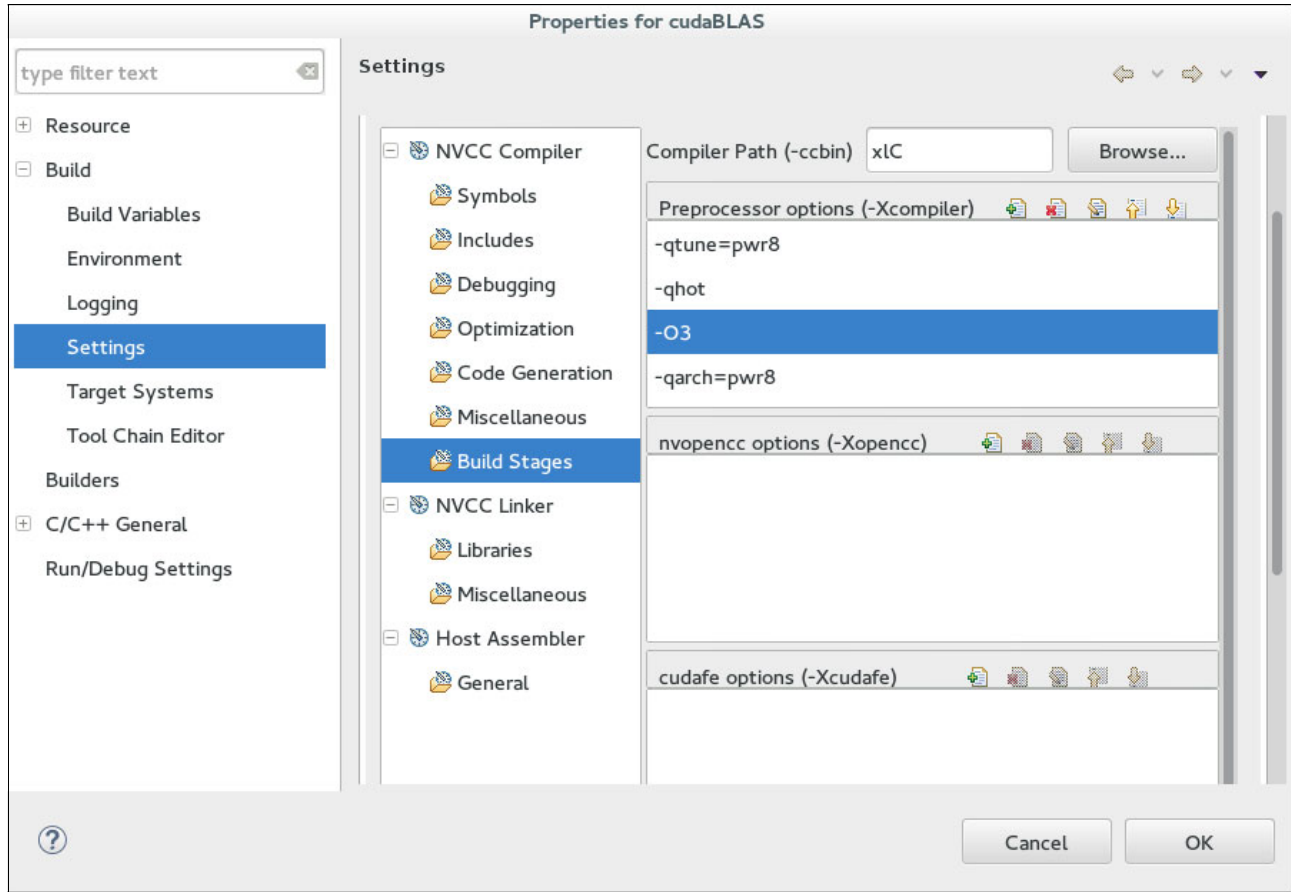

Figure 6-17 Nsight - new CUDA C/C++ project build settings
4. As an optional step, i set the host compiler that is evoked by **nvcc**. Right-click the project name and select **Properties**. Expand **Build**, and then choose **Settings**. Click the Tool Settings tab, then select **Build Stages** to fill out the **Compiler Path** and **Preprocessor options** fields (see Figure 6-17). Change the content of the **Compiler Path** under the Miscellaneous section of the NVCC Linker window.